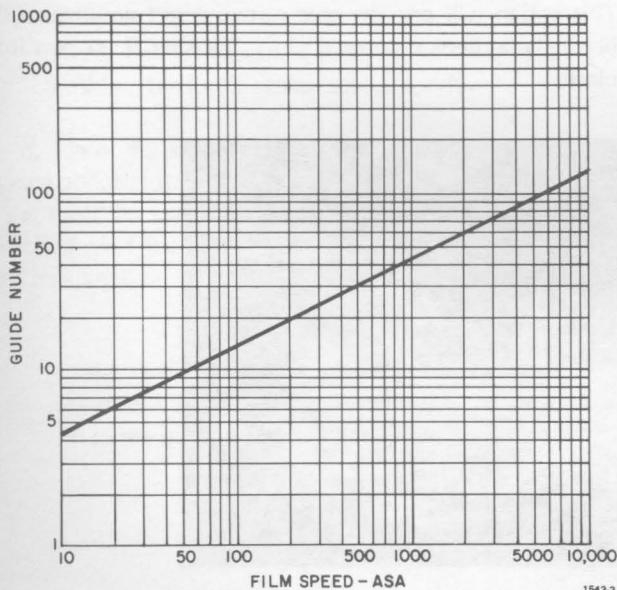

Figure 5. Guide-number chart.
- Find the guide number for the film speed used (see Figure 5).